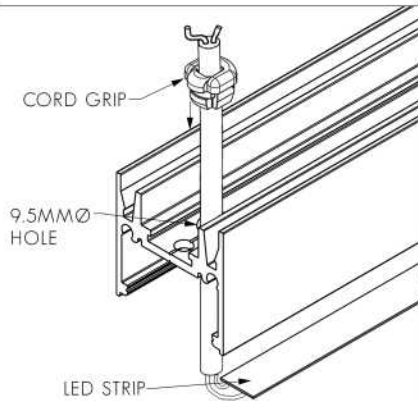

FIG. 3 - MAKE ELECTRICAL CONNECTION
2. MAKE ELECTRICAL CONNECTION: CONNECT LED STRIP TAILS TO LED DRIVER (SEE FIG. 3 ON NEXT PAGE IF SUPPLIED WITH MALE/FEMALE CONNECTORS).